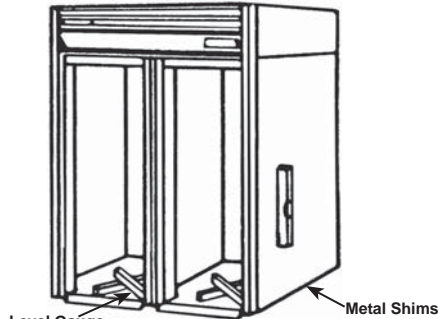

Figure 1
Step 2: Level unit, inserting metal shims under unit where required. It is important that an accurate carpenter's level be used when leveling cabinet. See **Figure 1** on next page.